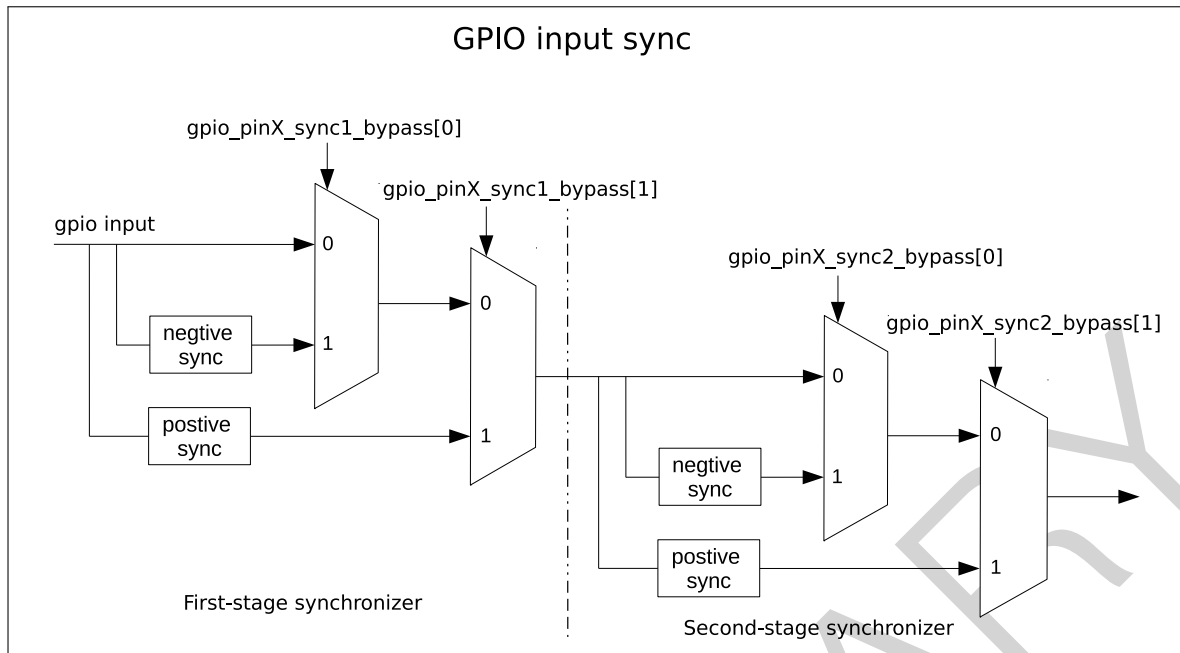

Figure 2-3. GPIO Input Synchronized on APB Clock Rising Edge or on Falling Edge
Figure 2-3 shows the functionality of GPIO SYNC. In the figure, negative sync and positive sync mean GPIO input is synchronized on APB clock falling edge and on APB clock rising edge, respectively.
- Set `GPIO_PIN $x$ _SYNC1_BYPASS` to enable input signal synchronized on rising edge or on falling edge in the first clock, see Figure 2-3.
- Set `GPIO_PINx_SYNC2_BYPASS` to enable input signal synchronized on rising edge or on falling edge in the second clock, see Figure 2-3.